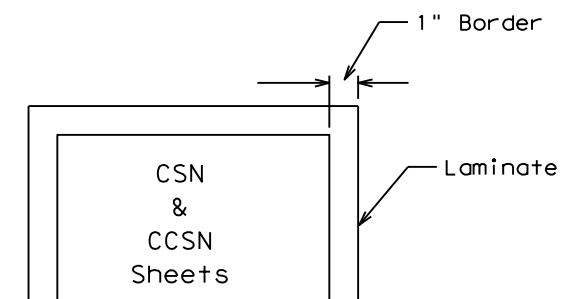

Figure 1
3. CSN & CCSN Sheets will be laminated and attached to the sign with an adhesive. Ensure sheets remain dry. (See Figure 1).